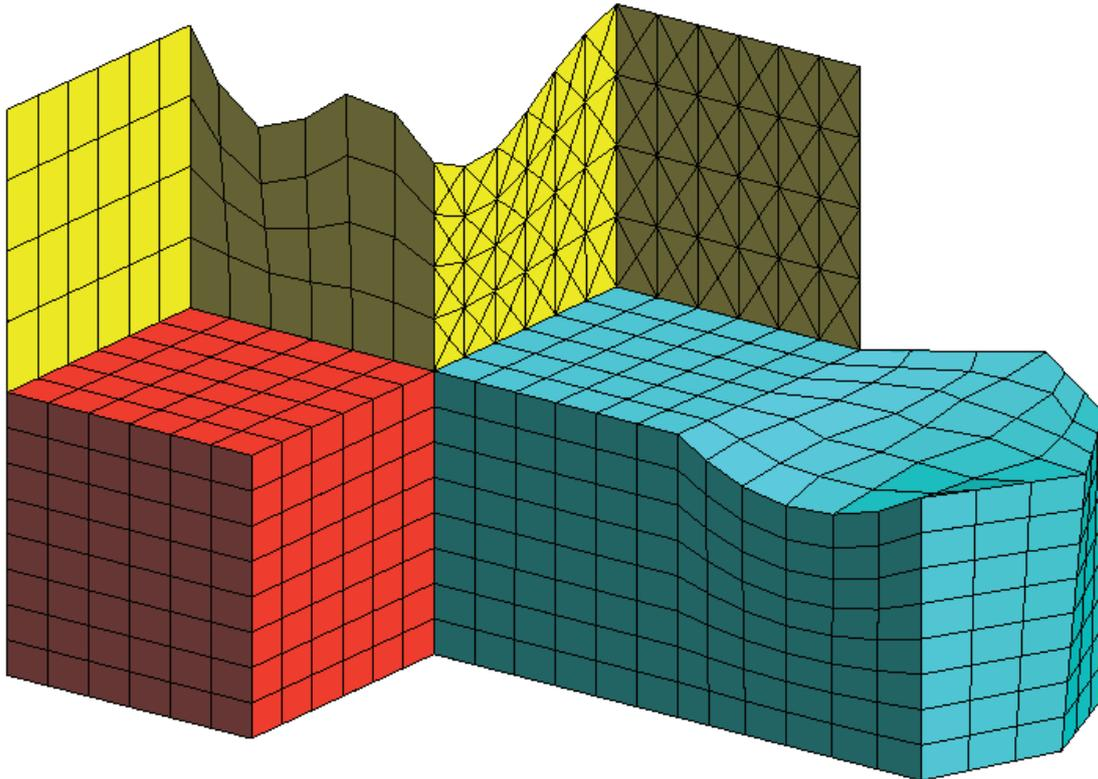

Figure 12. Semi-structured volume mesh of hexahedra.
- 12 . Another window appears in which to enter the maximum element size. Leave the default value unaltered and click **OK**. The result is the mesh shown in Figure 12.